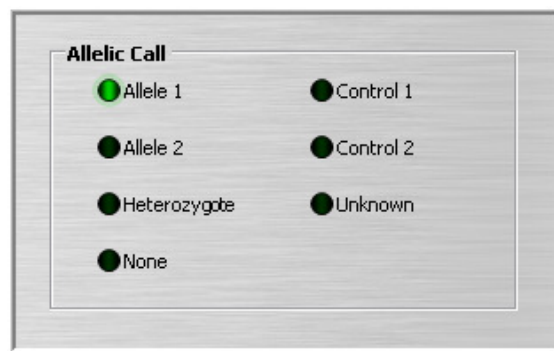

Fig. 6.32. The Manual Call Specification Options Box.
1. Click Manual Call. A new box appears in the window (Figure 6.32).